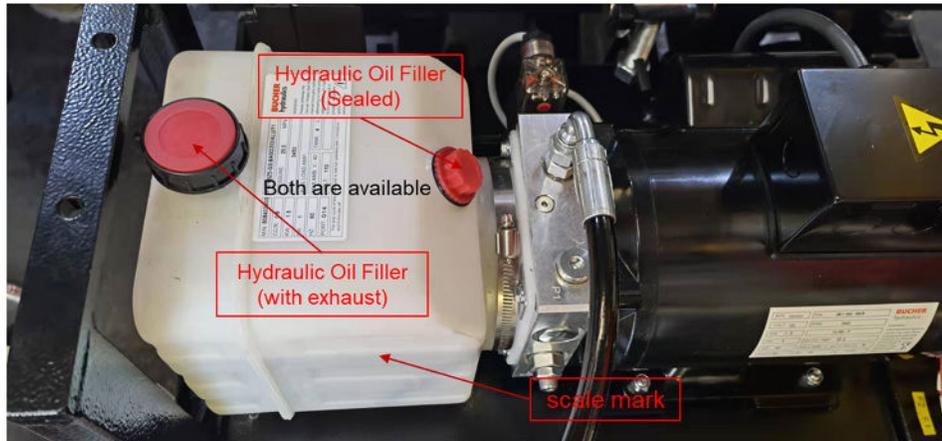

Fig.7.1.6 Console
- c) Open the cover of the console and add about 3L ISO 32 Hydraulic Oil into the oil tank. Then reinstall the cover (Fig.7.1.6).